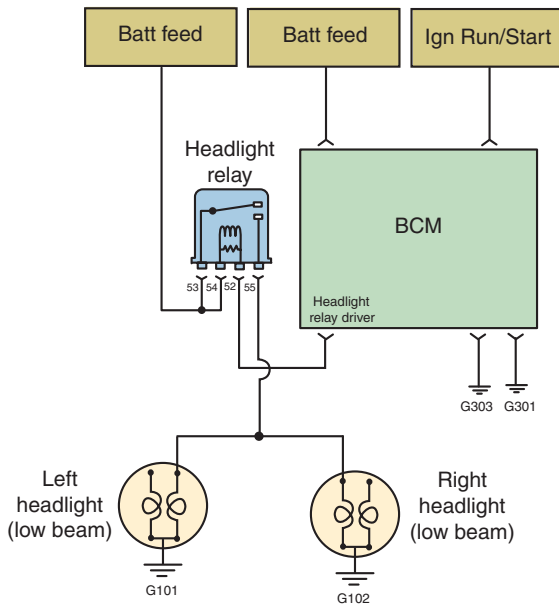

FIGURE 9-19
10. Using Figure 9-19 of a computer-controlled headlight system; the headlights operate dimly on both sides. What is the most likely cause?